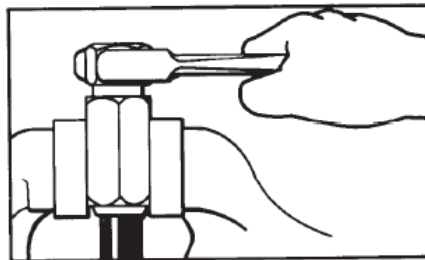

Figure 1 Removing Coupling Insert
- a. Clamp the ferrule in a vice and screw the insert from the hose in a counterclockwise direction (Figure 1).